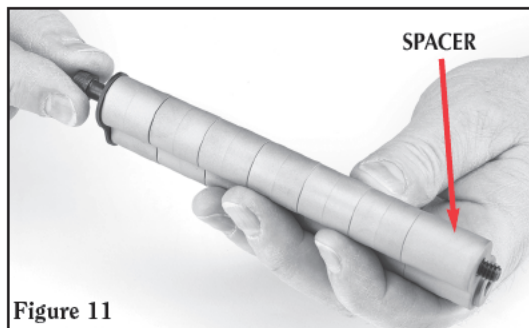

Figure 11
4. Insert the ISB screw into the front cap and through the baffle stack until the ISB screw engages the threaded portion of the spacer. Screw the ISB screw into the spacer (see Figure 11). Inspect the baffle stack to ensure that there are no gaps between the components.